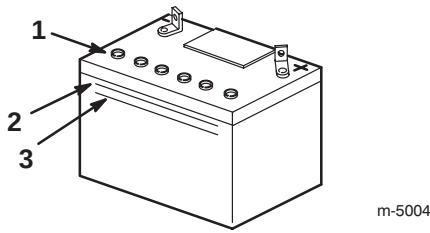

Figure 1
3. Slowly pour electrolyte into each battery cell until the electrolyte level is up to the Upper line on the battery case (Fig. 1).
5. Add electrolyte, if necessary, until the electrolyte level is up to the Upper line (Fig. 1) on the battery case.